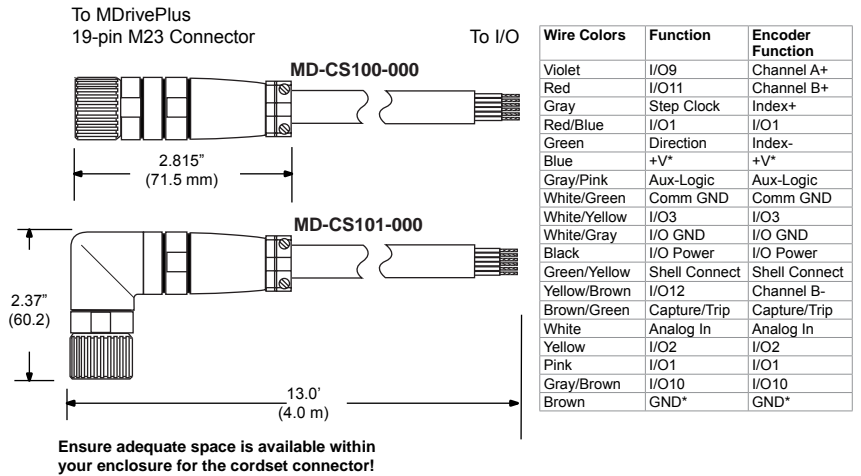

Figure 4.8 MD-CS10x-000 cordset
- Figure 4.8 MD-CS10x-000 cordset..... 4-15